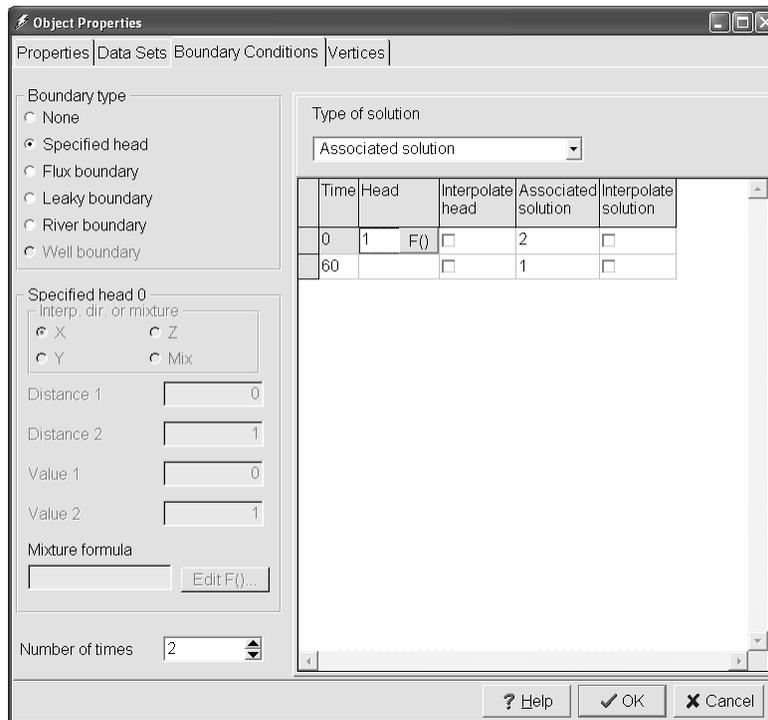

Figure 35. Object Properties dialog box showing how to set up the specified head boundary for the left side of the model.
11. At this point the **Object Properties** dialog box will appear. Click the **Help** button and read about this dialog box. On the **Properties** tab, check the **Nodes** radio button. Then change to the **Boundary Conditions** tab and select the **Specified head** radio button. Change the **Number of times** (near the bottom left) to 2. Then fill in the table for the specified head boundary condition as illustrated in figure 35. This specified head boundary will have a **Head** of 1 for the duration of the model but its **Associated solution** will change from 2 to 1 after 60 seconds. The value for **Head** only needs to be specified once.